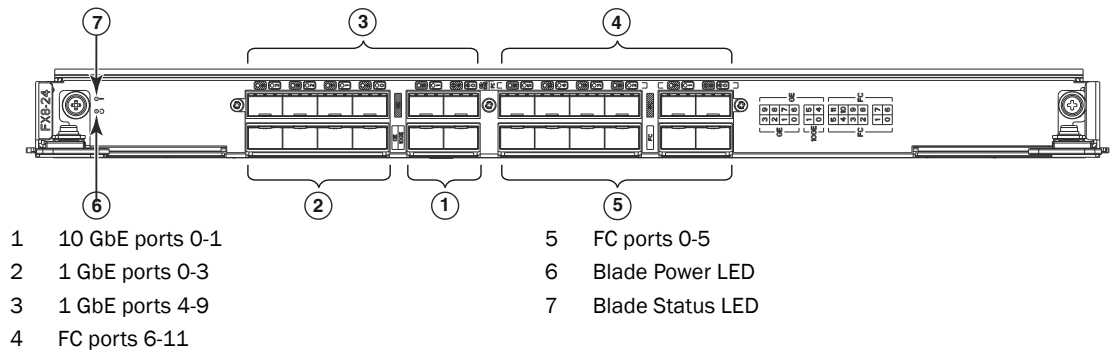

FIGURE 43 FX8-24 extension blade
- FX8-24 extension blade (Figure 43)